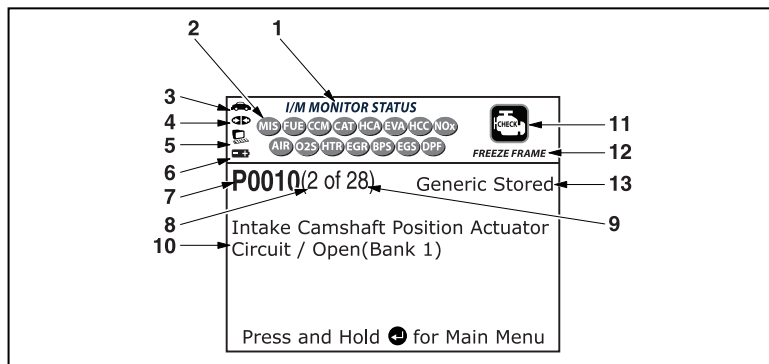

Figure 2. Display Functions
See Figure 2 for the locations of items 1 through 13, following.